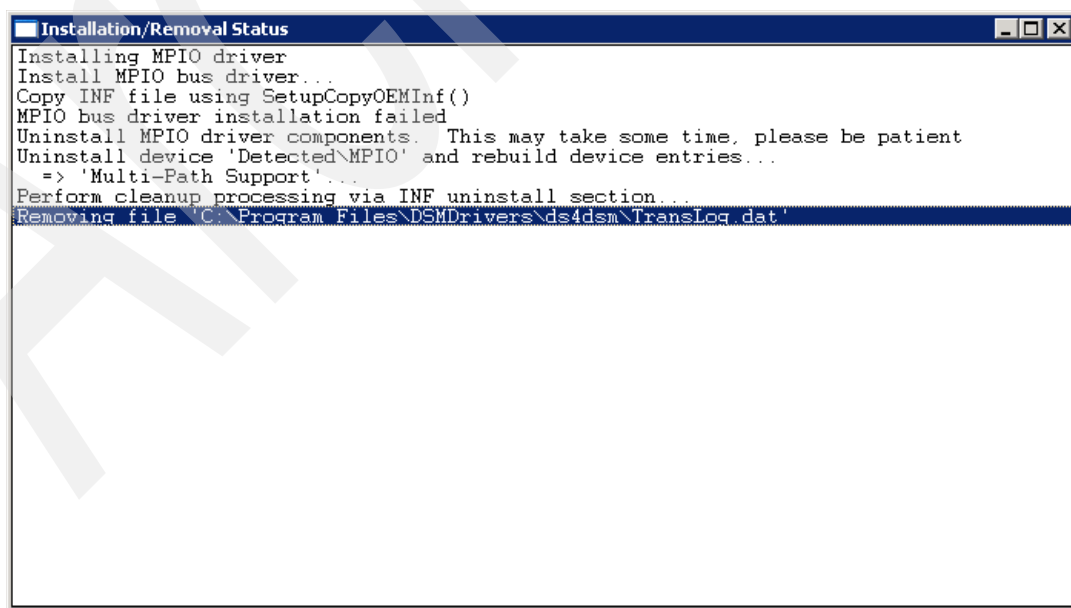

Figure 5-19 Installation Status window
10. In addition, another installation status messaging window will appear during the installation, as shown in Figure 5-19.